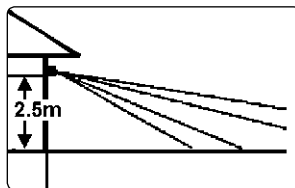

fig.1
- 4.1.2. An approximate appropriate mounting height from the ground is 2.5m. See fig.1.